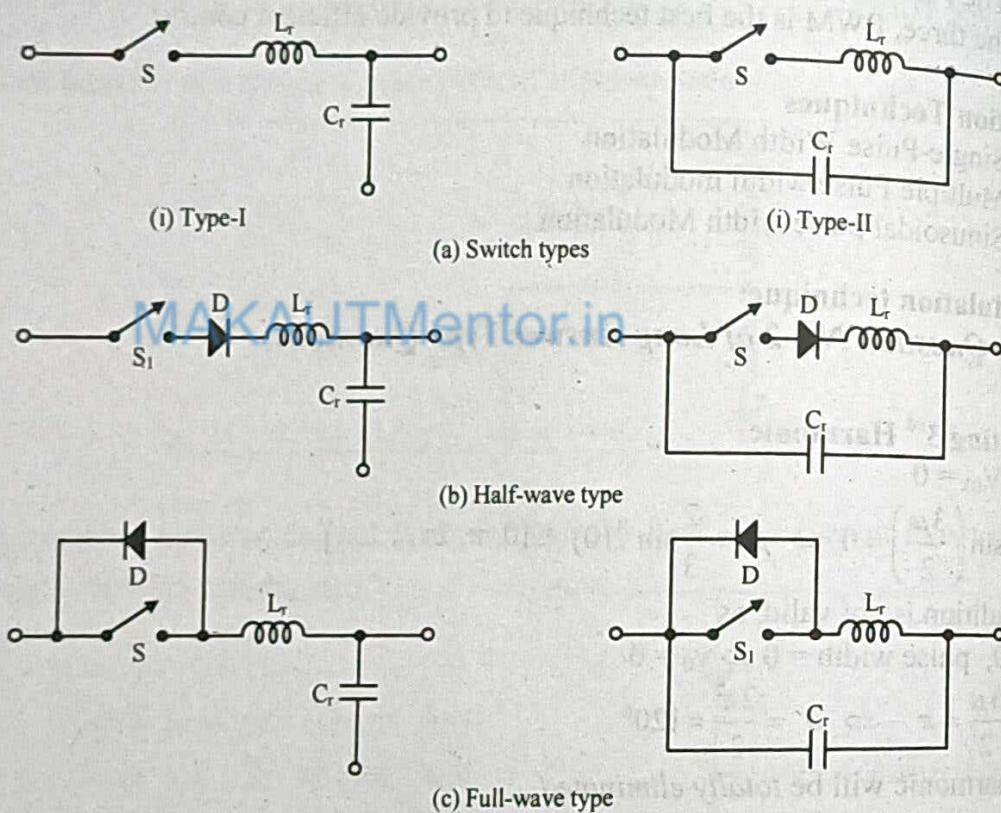

Fig: 1 Zero-current switch converters
**Zero-Current-Switching (ZCS) Topology:** Here the switch turns-on and turns-off at zero current. Fig. 1(a) shows switch types. As shown, in both types the circuit consists of switch, inductor and capacitor. In both types, inductor  $L_r$  limits the  $di/dt$  of the switch current and  $L_r$  and  $C_r$  constitute a series-resonant circuit. When the switch current is zero, there will be a current  $i = C_r dv_r / dt$  flowing through the internal capacitance  $C_r$  due to a finite slope of the switch voltage at turn-off. This current flow will cause power dissipation in the switch and limits the high switching frequency.
Fig. 1(b) shows two circuit configurations. In half-wave configuration, unidirectional current flow is maintained by diode  $D$  whereas in full-wave configuration, switch
The line voltage  $V_{AB} = V_{AN} - V_{BN}$  is obtained by reversing  $V_{BN}$  and adding it to  $V_{AN}$  as shown in Fig (refer question no 1). Similarly, line voltages  $V_{BC} = V_{BN} - V_{CN}$  and  $V_{CA} = V_{CN} - V_{AN}$  are plotted in Fig. 1. It can be observed from Fig. 1 that phase voltages have six steps per cycle and line voltages have one positive pulse and one negative pulse (each of  $120^\circ$  duration) per cycle. The phase as well as line-voltages are out of phase by  $120^\circ$ .
The instantaneous line-to-line voltage,  $V_{AB}$ , in Fig. 1, can be expressed in a Fourier-series, recognizing that  $V_{AB}$  is shifted by  $\pi/6$  and even harmonics are zero,